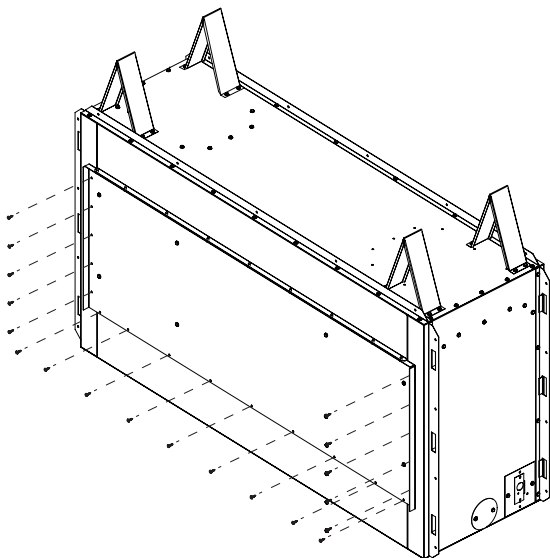

Figure 16 - Installing Rear Panel for Regular Applications
1. Using self-tapping screws provided and holes on rear panel as a guide, screw the rear panel to the fireplace as shown in Figure 16.